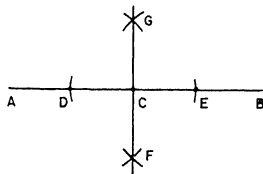
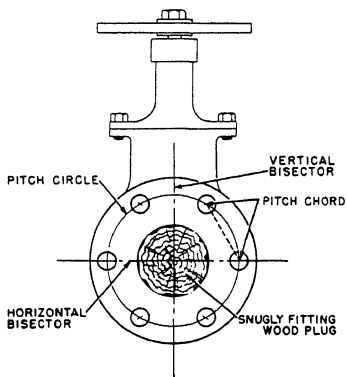

Figure 3-25.—Layout of a perpendicular from a point on a line.
Figure 3-28.—Flange layout terminology.
Use a divider to lay out a perpendicular FROM a point ON a line, as shown in figure 3-25. Lightly prick-punch the point identified in the figure as C on line AB. Then set the divider to any distance to scribe arcs which intersect AB at D and E with C as the center. Punch C and E lightly. With D and E used as centers and with the setting of the divider increased somewhat, scribe arcs which cross at points such as F and G. The line drawn through F and G will pass through point C and be perpendicular to line AB.
Before describing the procedure for making valve flange layouts, we need to clarify the terminology used in the description. Figure 3-28 shows a valve flange with the bolt holes marked on the bolt circle. The straight-line distance between the centers of two adjacent holes is called the **PITCH CHORD**. The bolt hole circle itself is called the **PITCH CIRCLE**. The vertical line across the face of the flange is the **VERTICAL BISECTOR**, and the horizontal line across the face of the flange is the **HORIZONTAL BISECTOR**.
1. Fit a fine grain wood plug into the opening in each flange. (See fig. 3-28.) The plug should fit snugly and be flush with the face of the flange.
5. Draw the vertical bisector. This line must pass through the center point of the flange and must be visually located directly in line with the axis of the valve stem. (see fig. 3-28.)
6. Draw the horizontal bisector. This line must also pass through the center point of the flange and must be laid out at a right angle to the vertical bisector. (See fig. 3-28 and fig. 3-25.)